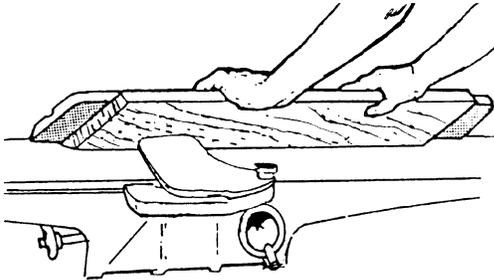

Figure 39
- Although the fence may be tilted in or out, it is recommended that the fence be tilted *in* toward the operator (as shown in Figure 39) for safety reasons.
5. Feed the stock through the cutterhead, making sure the face of the stock is completely flat against the fence and the edge is making solid contact on the infeed and outfeed tables (Figure 39).